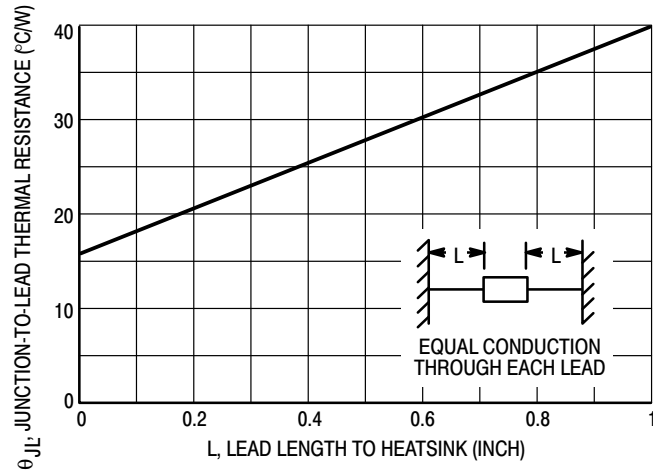
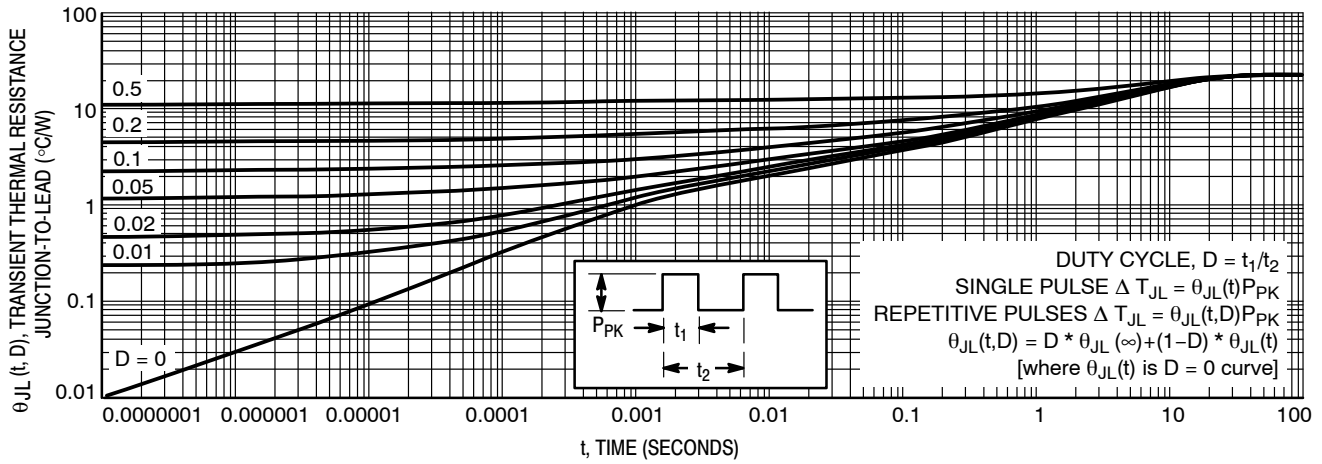
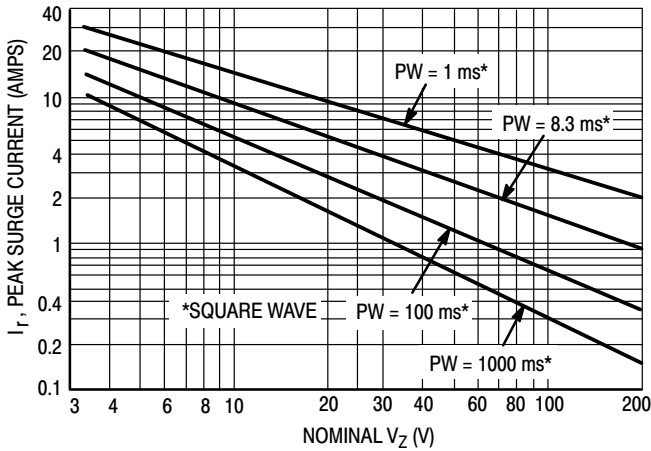
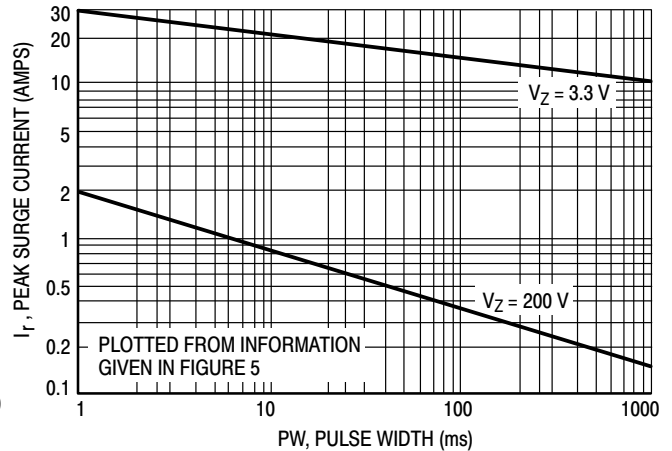

Figure 1. Typical Thermal Resistance
Figure 4. Typical Thermal Response
Figure 5. Maximum Non-Repetitive Surge Current
Figure 6. Peak Surge Current versus Pulse Width
- SURGE CURRENT (I_R):** Surge current is specified as the maximum allowable peak, non-recurrent square-wave current with a pulse width, PW, of 8.3 ms. The data given in Figure 5 may be used to find the maximum surge current for a square wave of any pulse width between 1 ms and 1000 ms by plotting the applicable points on logarithmic paper. Examples of this, using the 3.3 V and 200 V zener are shown in Figure 6. Mounting contact located as specified in Note 2 ($T_A = 25^\circ\text{C} + 8^\circ\text{C}, -2^\circ\text{C}$).
- SURGE CURRENT (I_P):** Surge current is specified as the maximum allowable peak, non-recurrent square-wave current with a pulse width, PW, of 8.3 ms. The data given in Figure 5 may be used to find the maximum surge current for a square wave of any pulse width between 1 ms and 1000 ms by plotting the applicable points on logarithmic paper. Examples of this, using the 3.3 V and 200 V zener are shown in Figure 6. Mounting contact located as specified in Note 7 ($T_A = 25^\circ\text{C} + 8^\circ\text{C}, -2^\circ\text{C}$).
ΔT_{JL} is the increase in junction temperature above the lead temperature and may be found from Figure 4 for a train of power pulses or from Figure 1 for dc power.
Data of Figure 4 should not be used to compute surge capability. Surge limitations are given in Figure 5. They are lower than would be expected by considering only junction temperature, as current crowding effects cause temperatures to be extremely high in small spots resulting in device degradation should the limits of Figure 5 be exceeded.